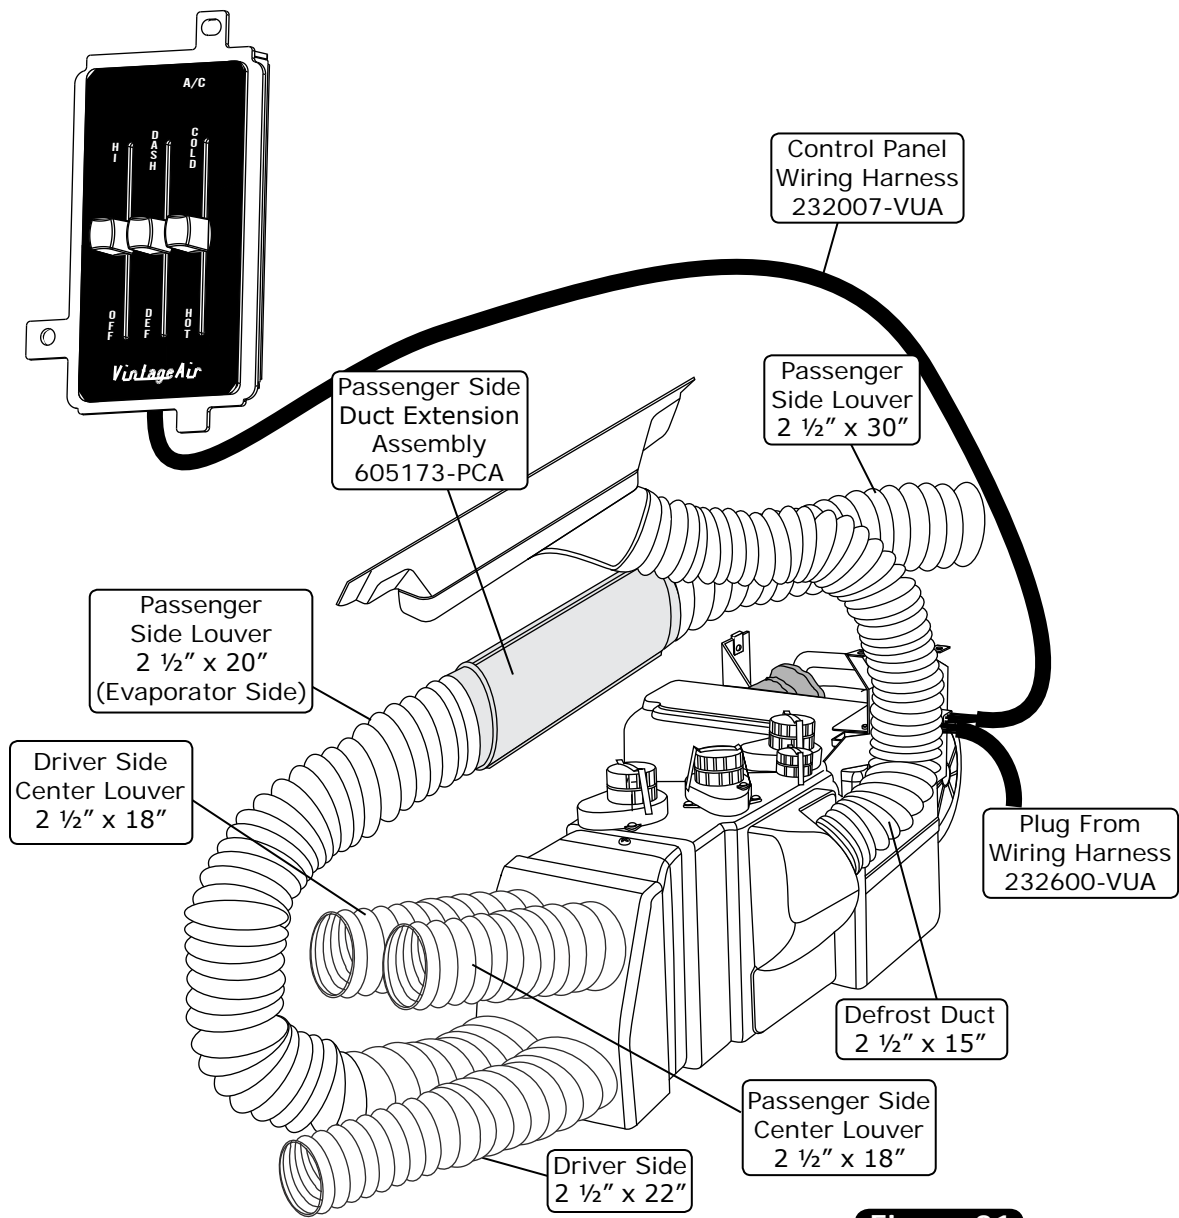

Figure 21
2. Install the duct hoses as shown in Figure 21, Page 22.
5. Plug the control panel harness into the ECU module on the sub case as shown in Figure 21, Page 22.